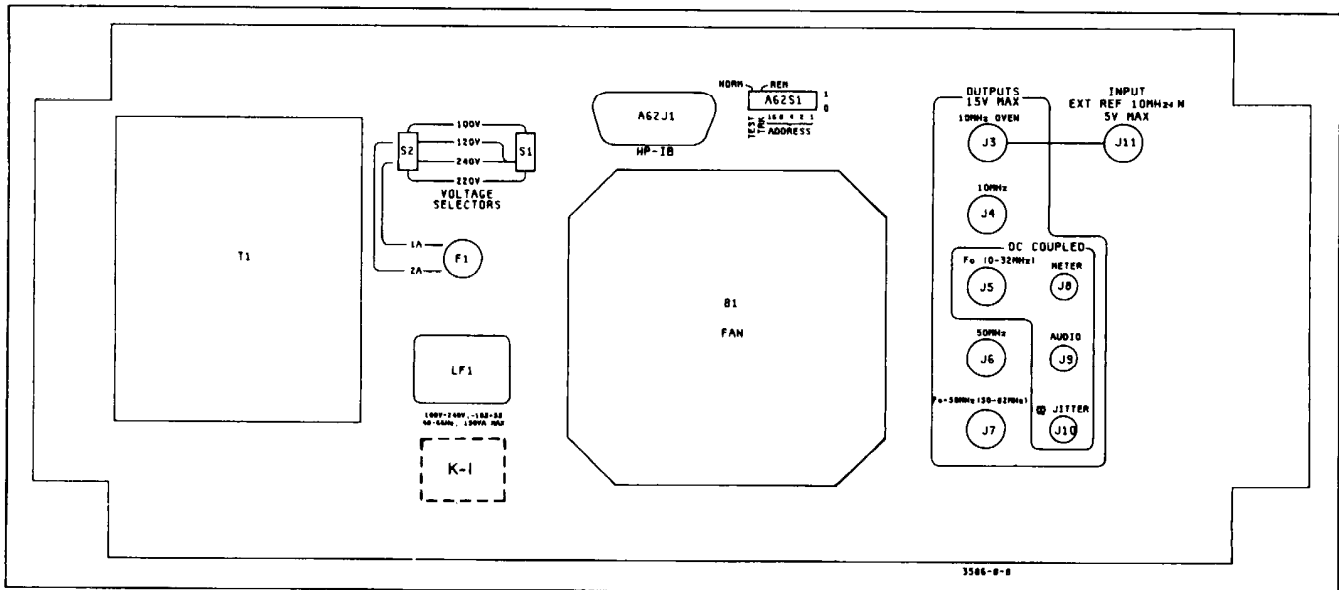

Figure 8-J-1. Rear Panel.
10. Remove rear panel. (See Figure 8-J-1 for rear panel component identification.)